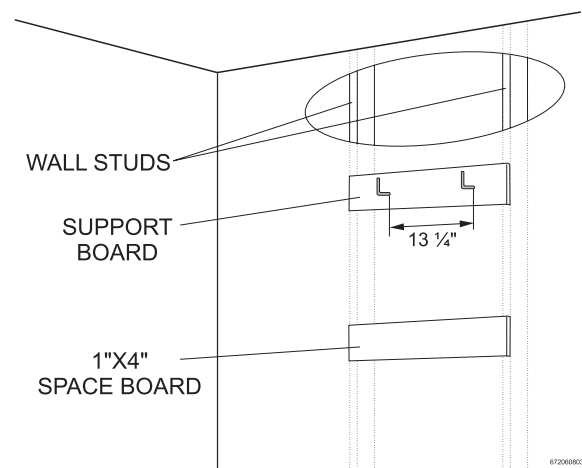

Fig. 7 Support board
- ▶ Secure the two included L shaped hooks to wall studs or support board 13 1/4" apart. (See Fig. 7).